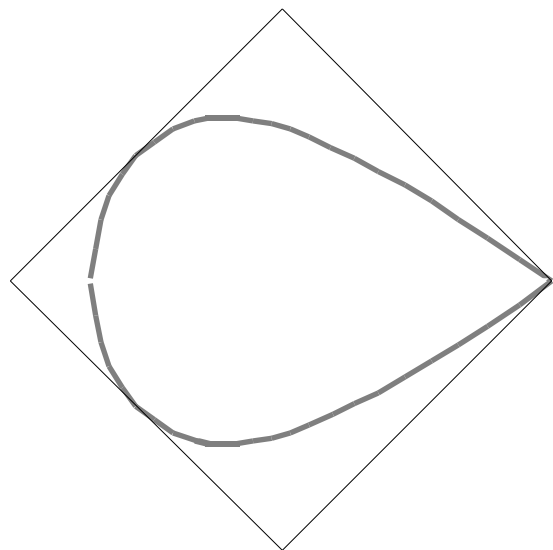

Figure 4 Output on PostScript Printer
1. The `fPolyFrame` and `fPolyFill` fields of the `TPolyRec` record are self-explanatory. The `fPolyClose` flag is redundant with the `PolyClose` picture comment, but is included for the convenience of the LaserWriter driver. It is often misunderstood. It does **not** mean the polygon is being closed automatically, like with the PostScript `closepath` operator; instead, it affects the shape of the smooth curve. Figure 4 above shows the result for `fPolyClose = FALSE`; the start and end point of the polygon is distinguished. In the case of `fPolyClose = TRUE`, all vertices of the polygon are treated in the same manner, and the resulting curve resembles a circle (in this case).